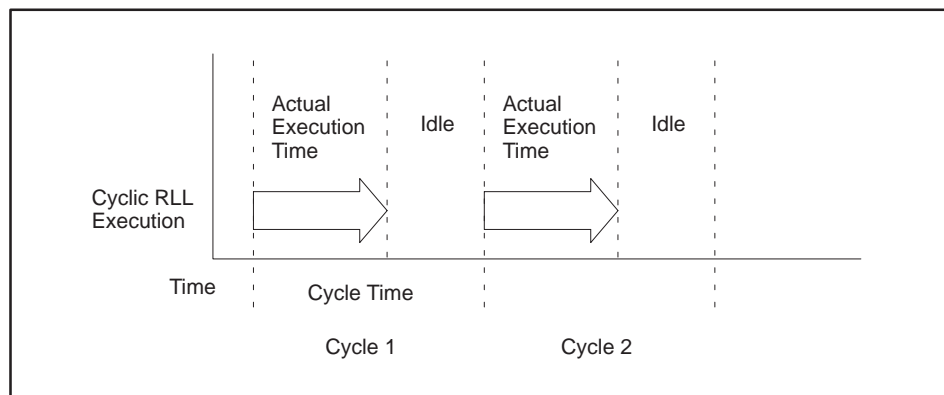

Figure 5-11 Relationship of Cyclic RLL Execution Time to Cycle Time
- If the cyclic RLL completes execution in less than the time specified by cycle time, execution does not resume until cycle time expires (Figure 5-11).